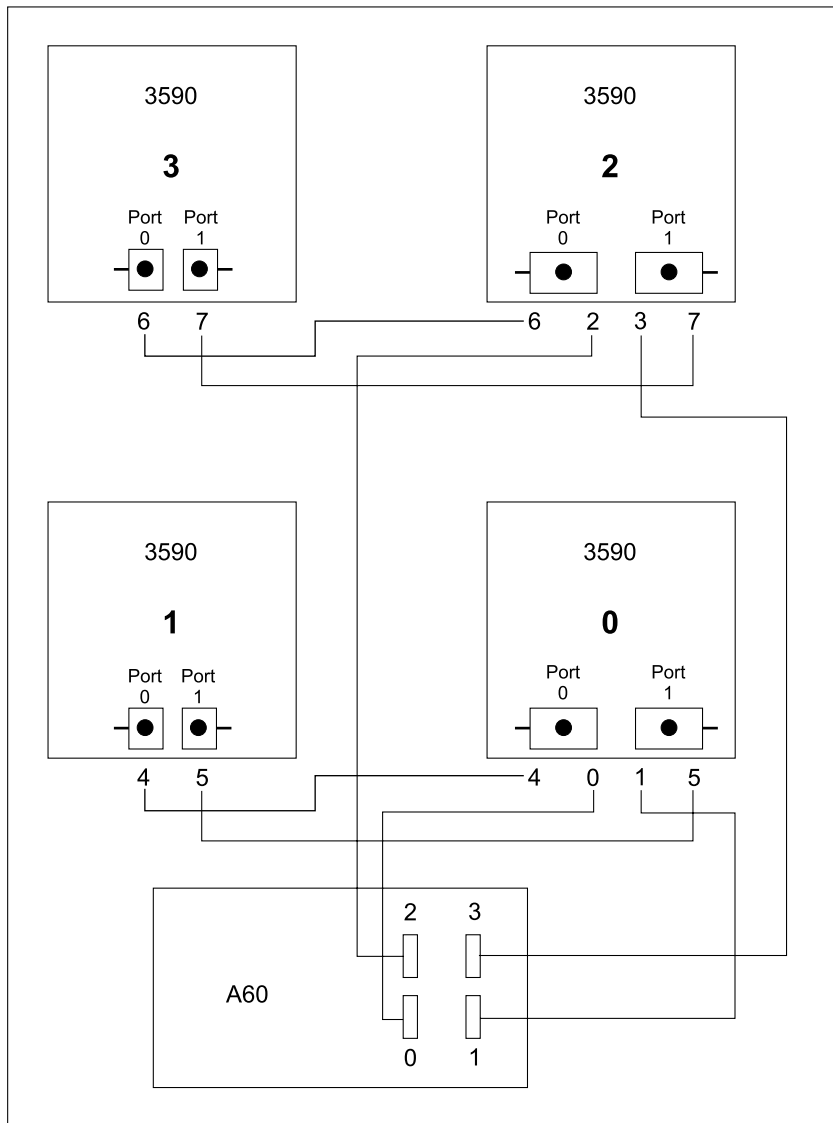
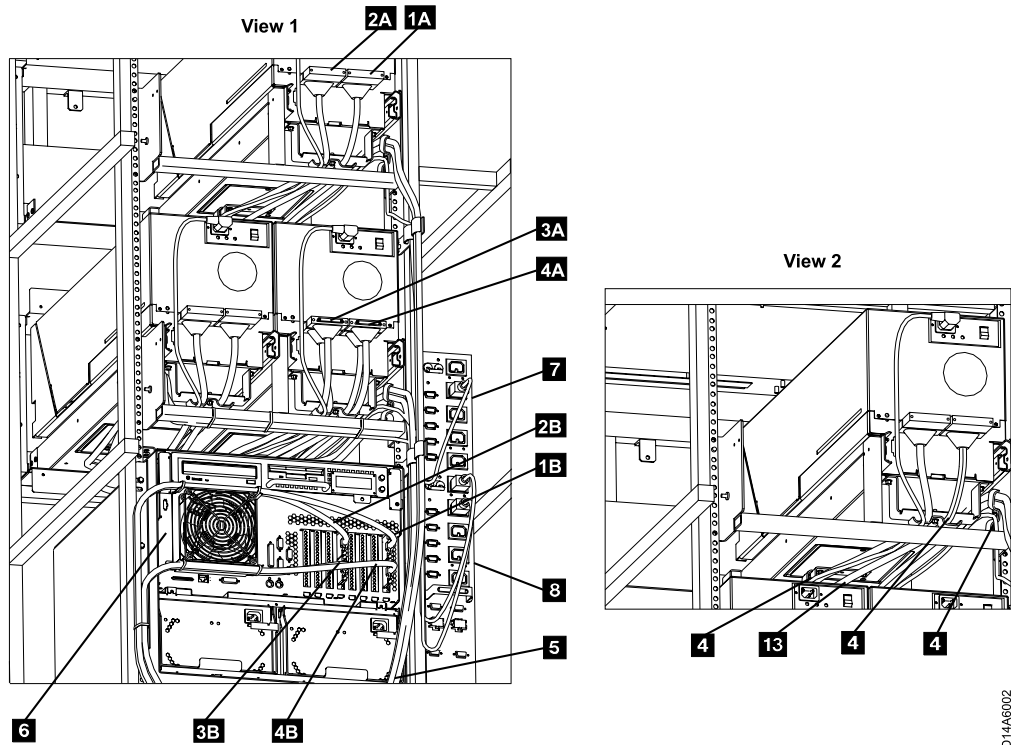

Figure 45. D14 Frame Drive Numbering Convention
Figure 48. A60 Controller SCSI Cabling
The D14 frame may contain any where from 1 to 4 drives. These instructions have been structured to handle the 4 drive configuration. If your D14 contains less than 4 drives, skip the steps not applicable to your configuration. See Figure 45 on page 232 for the drive numbering convention in a D14.
\_\_\_ Step 9. Any remaining SCSI cables are drive to drive cables. If required, re-label these cables to match the number assignment shown in Figure 45 on page 232.
1. Notice that the new SCSI cable has a different type of connector on each end, the small connector attaches to the A60 Controller and the large connector attaches to the drive. If your D14 frame contains 1 or 2 drives, you will receive a pair of 3.5 meter control unit to drive cables, P/N 09L5107. Label one of these cables 0 and the other cable 1 (place the labels on both ends of the cable). Refer to Figure 45 on page 232.
2. If your D14 frame contains 3 or 4 drives, you will receive a second pair of new controller unit to drive cables. Label the cables, P/N 05H4650, 2 and 3 (place the labels on both ends of the cable). Refer to Figure 45 on page 232.
- \_\_\_ Step 1. Install the new SCSI cable Labeled #0 . Refer to Figure 45 and Figure 48 on page 236 view 1 **3A** , plugging on the drive end on port 0 (left port) on the lower right drive.
- \_\_\_ Step 2. Install the new SCSI cable Labeled #1. Refer to Figure 45 on page 232 and Figure 48 on page 236 view 1 **4A** plugging on the drive end on port 1 (right port) on the lower right drive.
- \_\_\_ Step 6. Starting at the drive end, place the new SCSI cables in the service loop shown in Figure 48 on page 236, view 2 **13** .
- \_\_\_ Step 7. When the service loop is correct, tighten the three sets of service loop cable clamps. Refer to Figure 48 on page 236, view 2 **4** .
- \_\_\_ Step 11. Route the SCSI cables from the drives down the right side of the D14 frame and through the cable clamp, refer to Figure 48 on page 236 **5** , tighten clamp.
- \_\_\_ Step 12. Route the SCSI cables, Labeled 2 and 3 **1B** and **2B** across the top of the front fan, see Figure 48 on page 236.
- \_\_\_ Step 13. Route the SCSI cables, Labeled 0 and 1 **3B** and **4B** across the bottom of the front fan, see Figure 48 on page 236.
**Note:** The PCC is electrically divided in two separate banks with five outlets on each section, refer to Figure 48 on page 236 **7** and **8**. **Make sure that the two power cords coming from the A60 Controller are not plugged into the same bank.**
- \_\_\_ Step 19. The table shows the maximum number of four (4) 3590 drives, however your subsystem may not have the maximum number. Cable according to the table up to the number of 3590 drives that your subsystem contains. Address the 3590 drives according to the table shown in Table 13 on page 198.
- \_\_\_ Step 21. The table show the maximum number of four (4) drives, however your subsystem any not have the maximum number. Cable according to the table up to the number of 3590 drives that your subsystem contains. Addr3ess the 3590 drives according to the table shown in Table 20